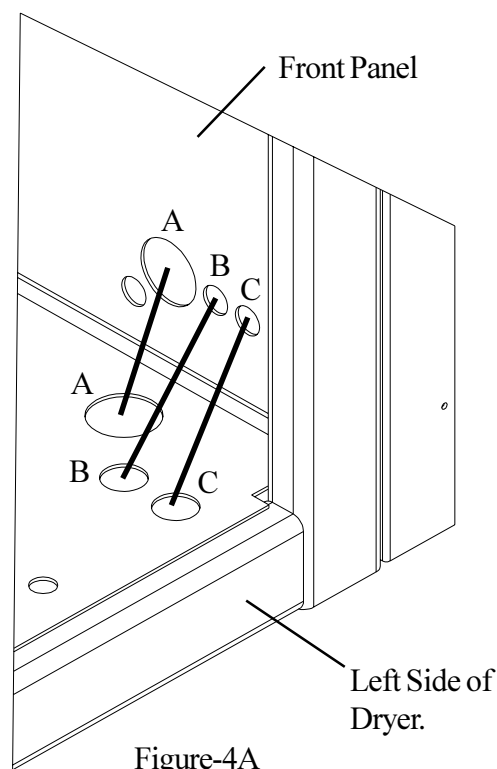

Figure-4A
STEP 10: Open side access doors on top section. The side covers on the bottom section should already be off. Look in side of bottom section toward the bottom of the top section. There should be three different wires tie together at the front corner of dryer. Take tie off of wires. Two of the wires are in flexible cable and you need to remove nuts before running wires. Run Lower Section 24V wires with plug through hole "A" in bottom of top section and front panel (See Figure-4A & 4B). Run fan wires (labeled F1-F3) through hole "B" in bottom of top section and front panel (See Figure-4A & 4B). Put the flexible cable nut back on wires and tighten down against front panel. Run 24V High Power wires (labeled L1-L3) through hole "C" in bottom of top section and front panel (See Figure-4A & 4B). Put the flexible cable nut back on wires and tighten down against front panel.